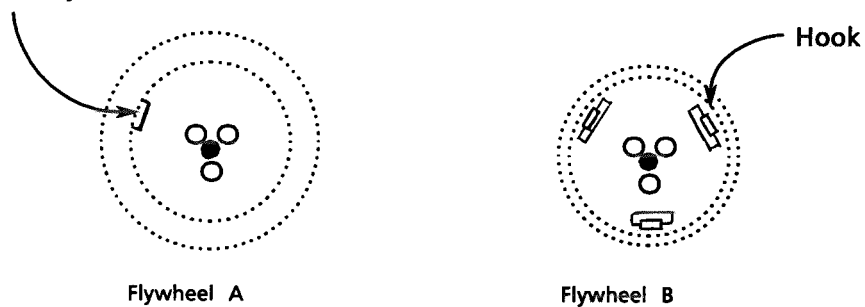

Fig 16 Hook and Cutting on the flywheel
3. Remove the 6 screws ① holding the bracket.
5. Put the cutting on the flywheel A together the bracket's pawl as shown in Fig. 16(Flywheel A) and check that the flywheel B is removed from the bracket's pawl(Fig. 16-Flywheel B).